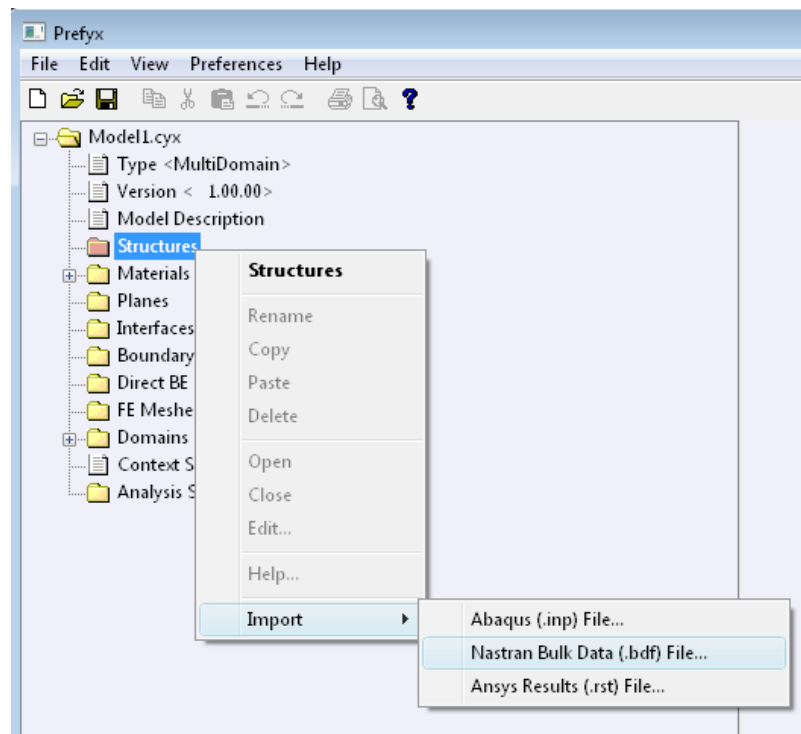

Figure A.5 Import a finite element structure mesh.
- Right-click on **Structures** and select: **Import** → **Nastran Bulk Data (.bdf) File...** (as shown in Figure A.5) to import mesh from Nastran bulk data format. The FE meshes from Abaqus and Ansys data formats can be imported by selecting **Abaqus (.inp) File** or **Ansys Results (.rst) Files** respectively.